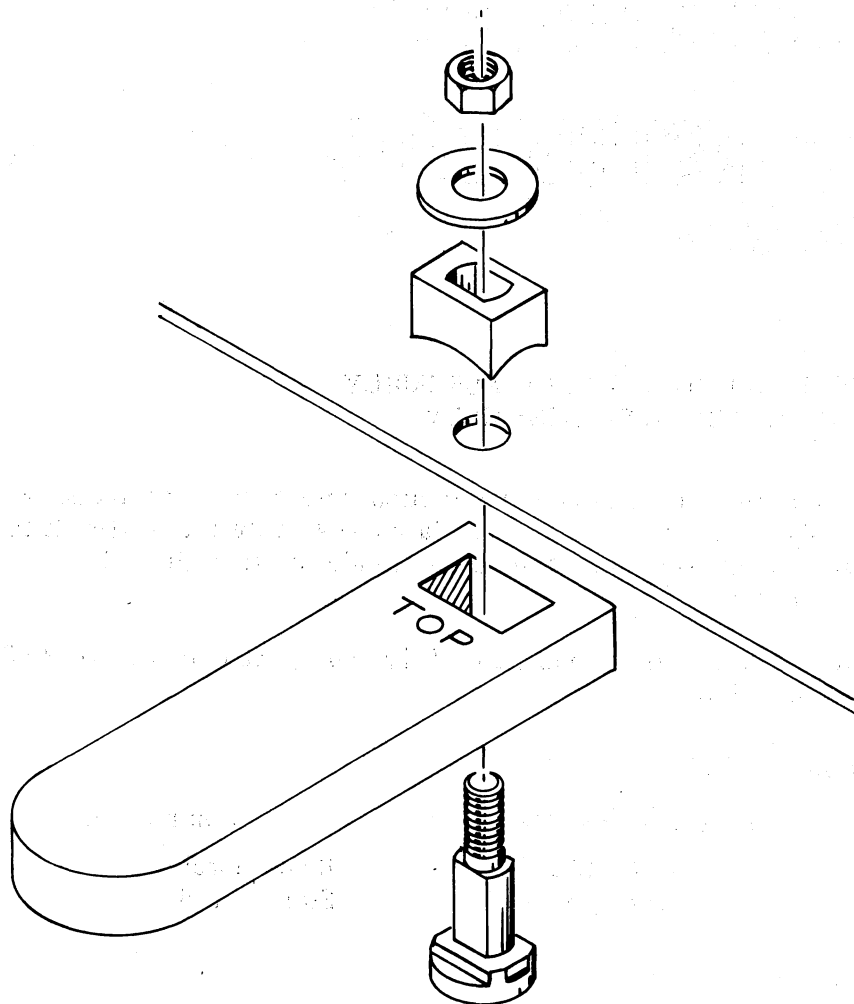

FIG. 1
- () 3 Using the smaller chassis punch marked 'LID', assemble the punch on the lid as shown in Fig. 1 and punch a rectangular hole, keeping the hole as parallel to the lid edge as possible.